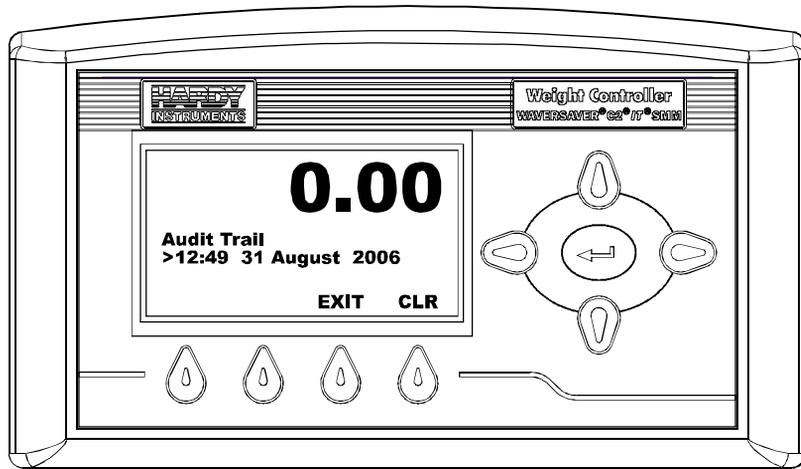

FIG. 407 AUDIT TRAIL/TIME AND DATE
Step 1. To see the Audit Trail press the Enter button. The Audit Trail display appears with the time and date displayed. (See Figs. 407 & 408)